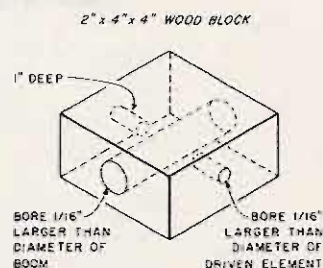

Fig. 2. Sketch of wood block holding driven elements.
**Step 6:** Take a 4-inch piece of  $2'' \times 4''$  and bore a hole in it as shown in Fig. 2, to accommodate the boom. Use a smaller bore (or large bit) to drill holes in the sides of the  $2'' \times 4''$ . These holes